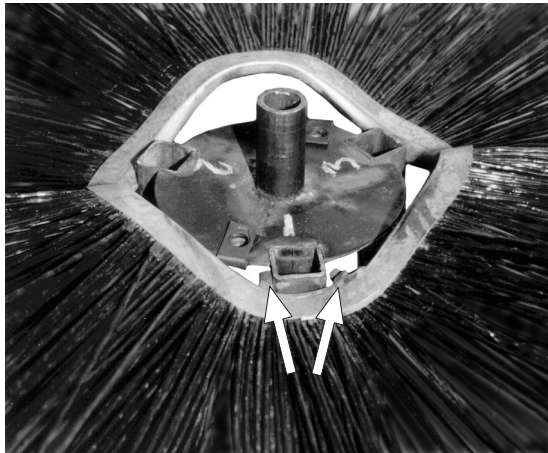

figure 5
- b. Slide the first section onto the core with the drive pins on both sides of tube 1. Make sure that drive pins (figure 5) face up.